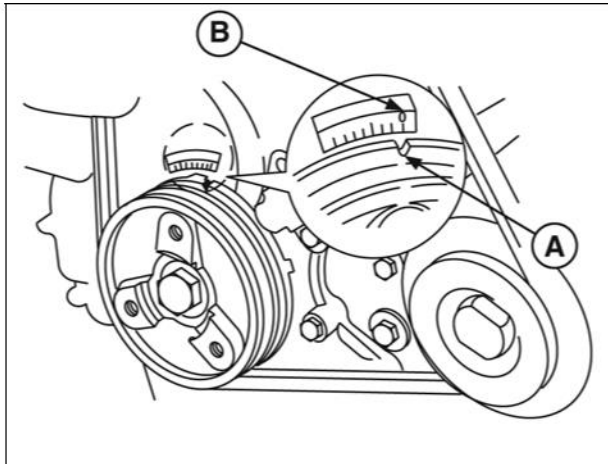

Figure 6
9. Rotate crankshaft pulley until timing mark on pulley is aligned with reference point (A, Figure 6) on timing cover (B).